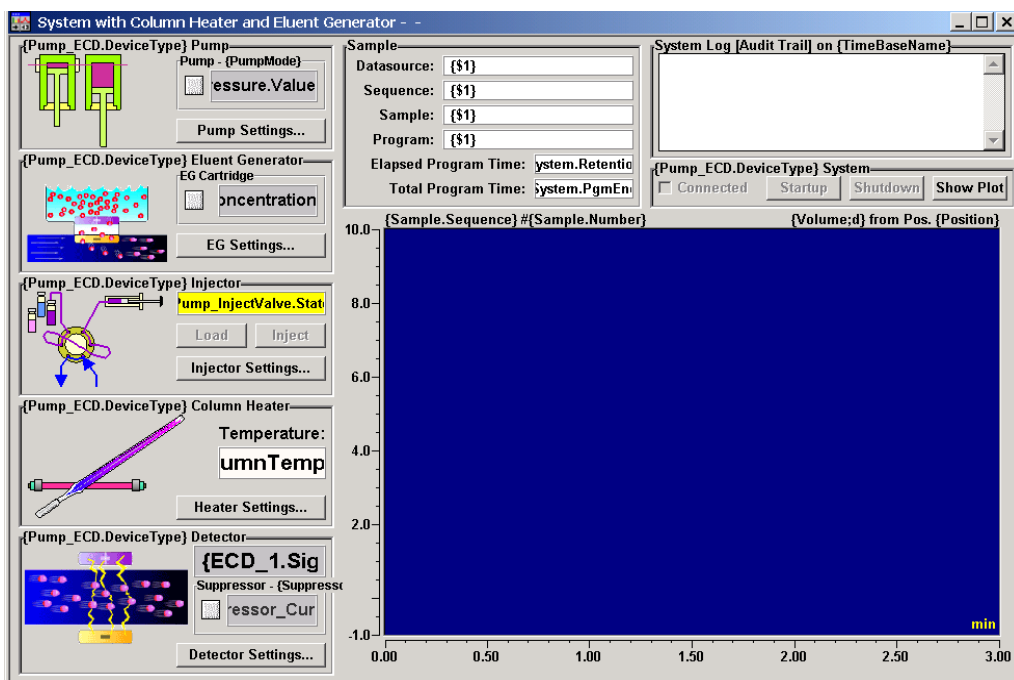

Figure 3-5. ICS-2000 System Control Panel (Unconnected)
- The Control panel opens, unconnected (see Figure 3-5). To connect to the timebase, open the **Control** menu and click the name of the ICS-2000 timebase in the list at the bottom of the menu.